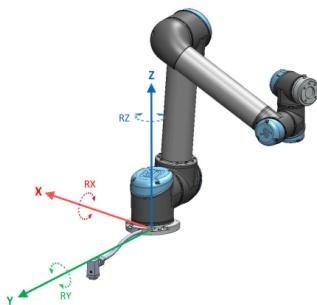

Figure 17.1: Base feature
- The Base feature is located with origin in the centre of the robot base (see figure 17.1)